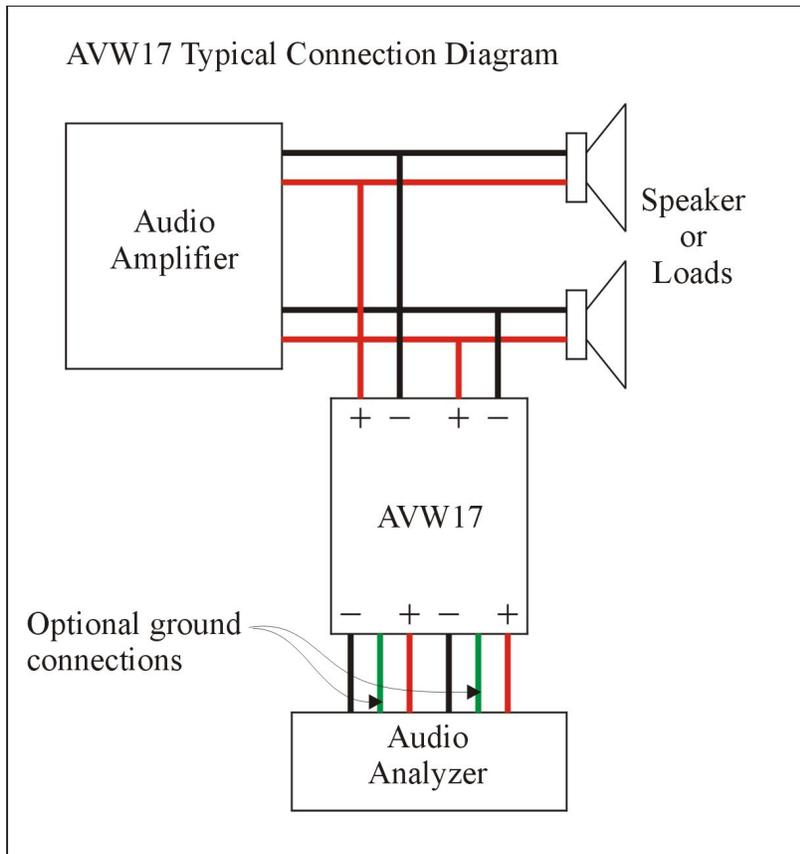
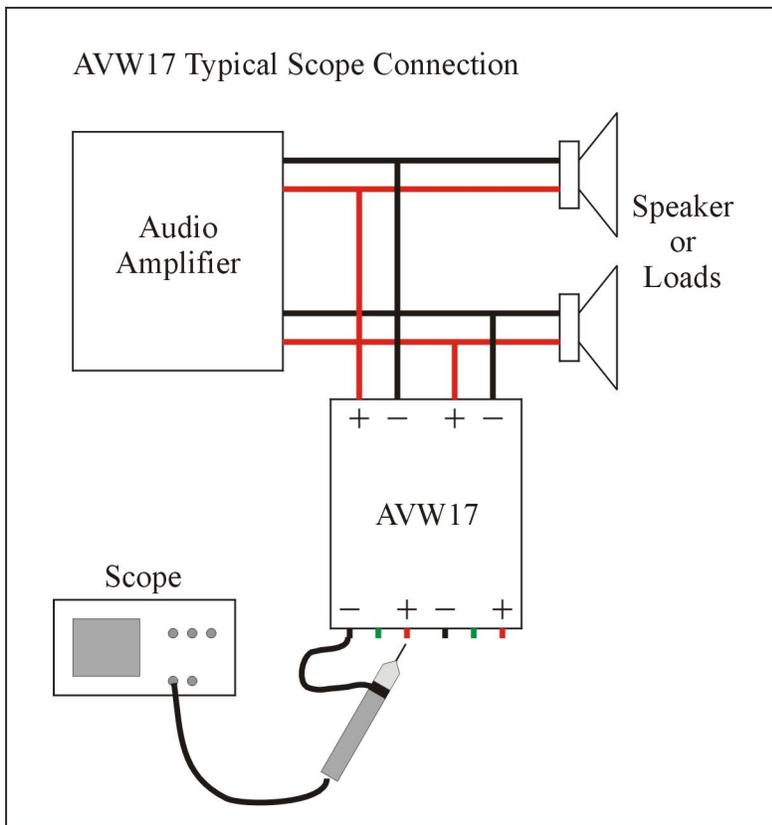

Figure 1 AVW17 Typical Connection
Figure 3 AVW17 Oscilloscope Connection
**Output Connection.** The AVW17 converts a BTL (differential) output from an amplifier to an unbalanced output. It can also provide electrical isolation. A typical connection to an audio analyzer is shown in Figure 1. Oscilloscope connection would attach the oscilloscope’s ground to the - Output and probe tip to + Output. A typical connection to an oscilloscope is shown in Figure 3.